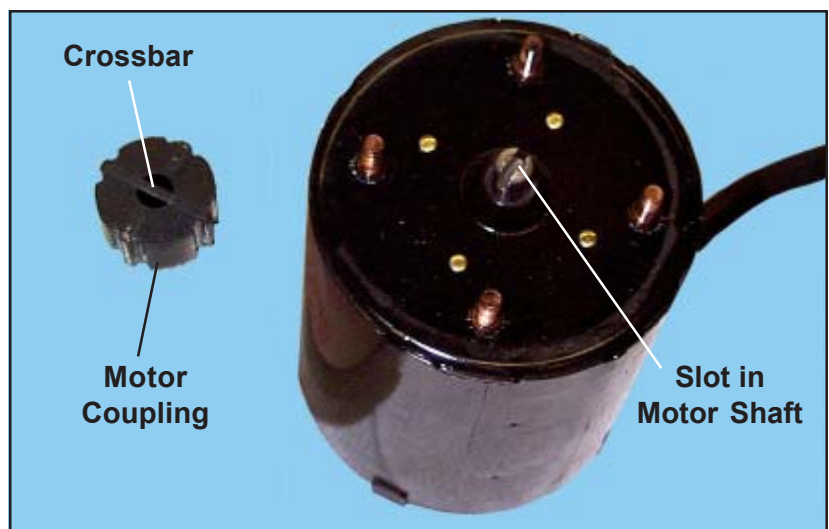

Figure 48. Motor Coupling to Motor Shaft Alignment
3. Pull the coupling off the motor shaft (Figure 48).
1. Align the crossbar on the motor coupling with the slot on the end of the motor shaft (Figure 48) and push the coupling onto the shaft. **Note:** The coupling is symmetrical; either side can be placed on the shaft.